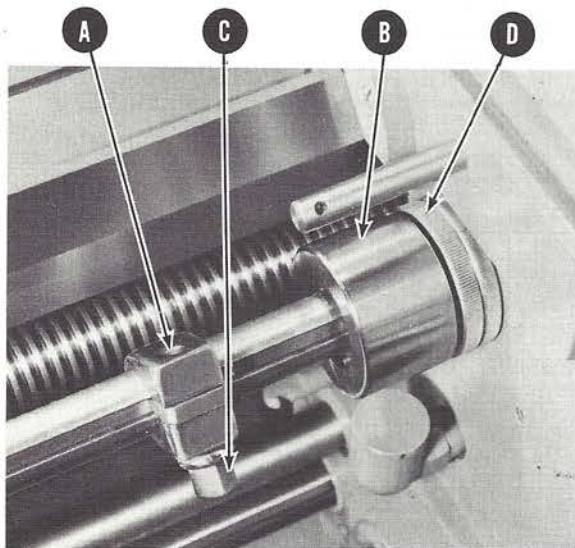

FIGURE 6 AUTOMATIC LENGTH STOP
Figure 6 shows the automatic length stop and adjusting collar at the left hand side of the apron. This stop is a time saver not only when chasing threads but also for ordinary turning operations. A similar stop on the right hand end of the leadscrew reverse control rod provides an automatic stop with the carriage moving toward the tailstock. To set stop (A), position the threading or turning tool to the required point on the work; then with the leadscrew reverse lever in neutral position, place stop (A) against adjusting collar (B) and tighten stud (C). Collar (B) is for the final close adjustment and is locked in place with nut (D).